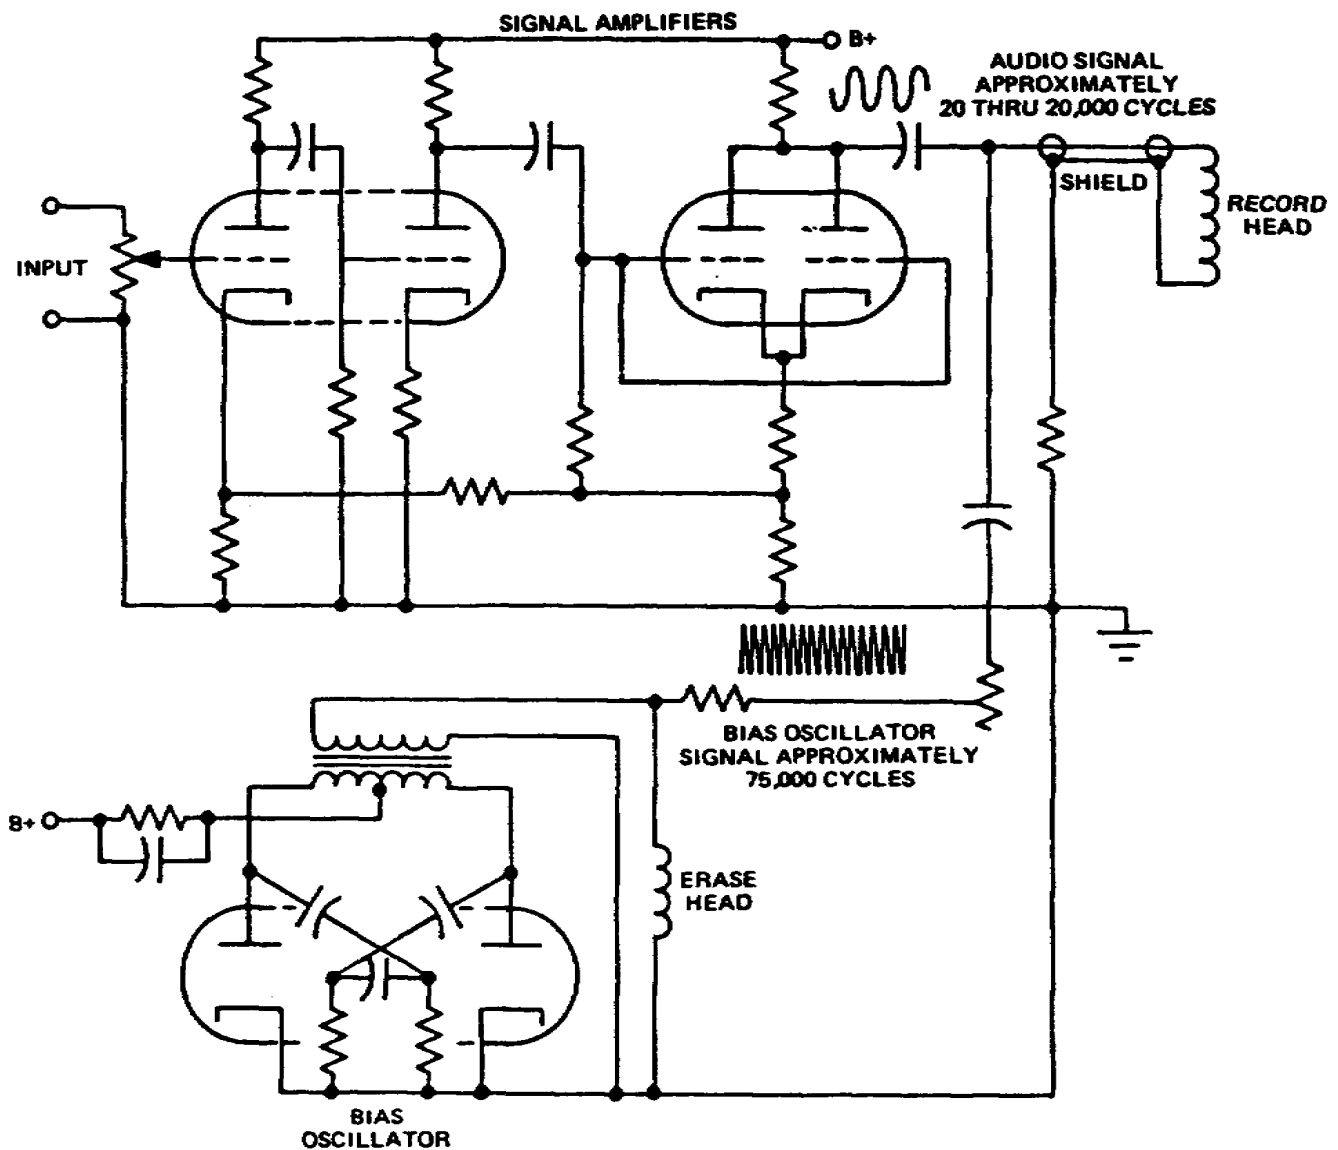

Figure 3-7. Typical record and bias oscillator circuits
1. Electronics. Typical electronic circuits used in tape recording are indicated in Figure 3-7. There are certain refinements as dictated by performance requirements. Normally, the higher the frequency response required, the better the overall quality of the circuit components. Even though the record head requires very little drive power, the need for bias injection, impedance matching, and possible preemphasis makes it important to use the correctly